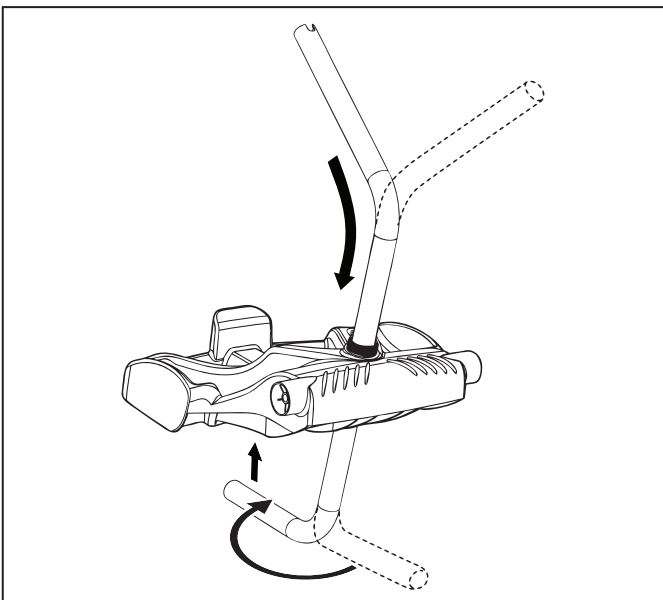

Figure 3. Connect Metal Frame to Base Unit
2. Insert the metal handle frame tubing into the base unit with notch end at the top, then rotate so the bends are away from you. (Figure 3)
3. Push base unit down (Figure 3) so the metal handle frame is seated in the recess on the underside of the base.